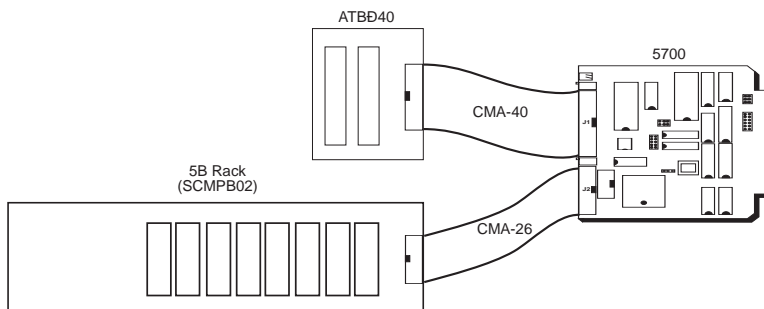

Figure 2-2—Positions of Sockets, Ribbon Cables, 5B Module Rack and ATB-40
2. If you are using a 5B Module Rack, plug one end of the CMA-26 cable into J2 on the 5700 Card. Plug the other end into the 26-pin socket on your 5B Module Rack (see Figure 2-2).
3. If you are using a ATB-40 Analog Terminal Board, plug one end of the CMA-40 into J1 on the 5700. Plug the other end into socket P1 on the ATB-40 Analog Board (see Figure 2-2).
The ATB-40 analog terminal board provides a connection for field wiring. You can use 12 to 22 gauge solid or stranded wire to connect equipment to the screw terminals. The ATB-40 is connected to the 5700 via a CMA-40 cable, as shown in Figure 2-2.